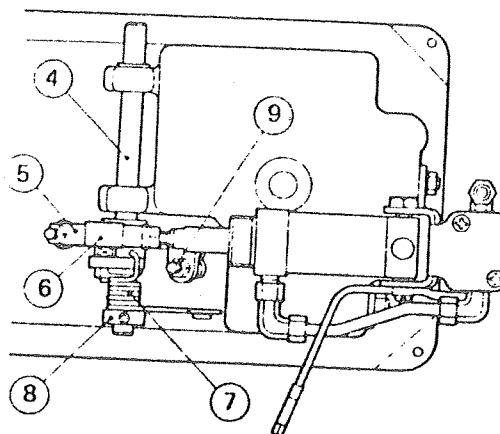

Fig. 32
- 3) Insert presser lifting shaft 4 through presser bar lifter arm 5 and connect ball joint 6 to presser arm 5. (Fig. 32)
- 4) Place spring 7 and collar 8 onto shaft 4. (Fig. 32)
- 1) Loosen nut 9 on stopper. (Fig. 32)